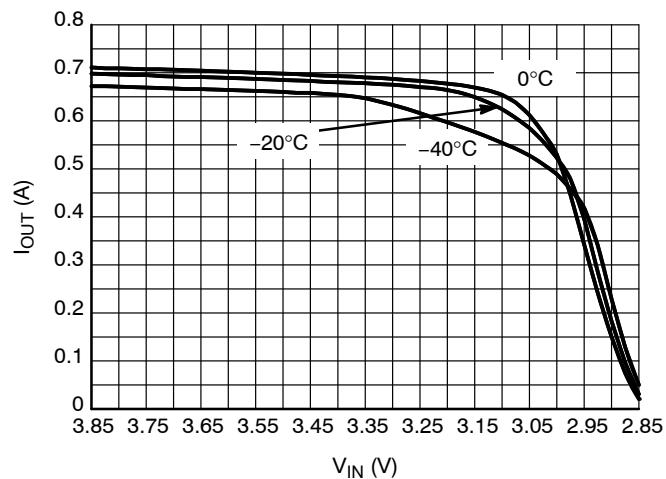

Figure 18. Output Current Capability for the 2.85 V Version
26. For output current capability for  $T_A < 0^\circ\text{C}$ , please refer to Figures 18 to 22.